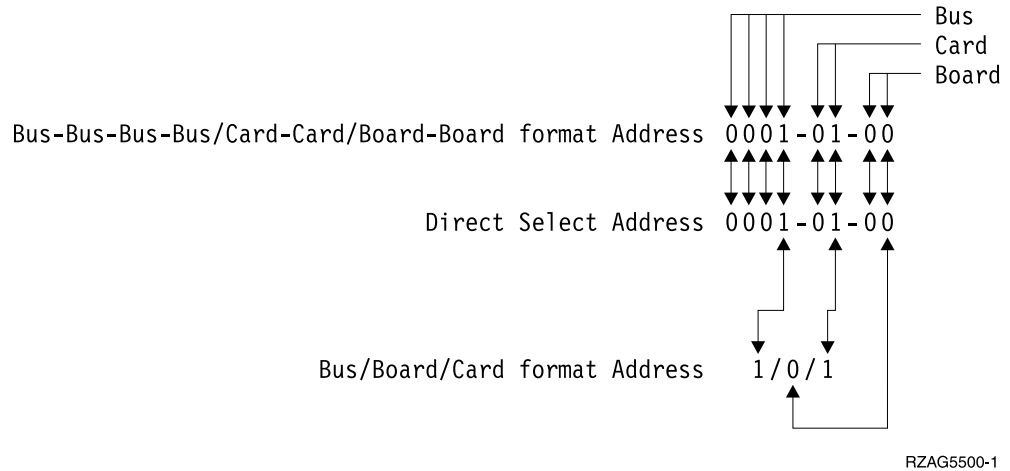

Figure 78. Format Conversion
11. Use Figure 78 on page 770 to understand how addresses in the Bus/Board/Card format relate to the Bus-Bus-Bus-Bus/Card-Card/Board-Board format. You can also use Figure 78 on page 770 to understand how addresses in the Bus/Board/Card format relate to the direct select addresses used in “System Unit and Expansion Unit Locations and Addresses” on page 712.
x1 = System bus	The one, two or three digit decimal representation of the hexadecimal Bus value of the Bus-Bus-Bus-Bus/Card-Card/Board-Board format Address at the top of Figure 78 on page 770.
x2 = System board	The one or two digit decimal representation of the hexadecimal Board value of the Bus-Bus-Bus-Bus/Card-Card/Board-Board format Address at the top of Figure 78 on page 770.
x3 = System card	The one or two digit decimal representation of the hexadecimal Card value of the Bus-Bus-Bus-Bus/Card-Card/Board-Board format Address at the top of Figure 78 on page 770.